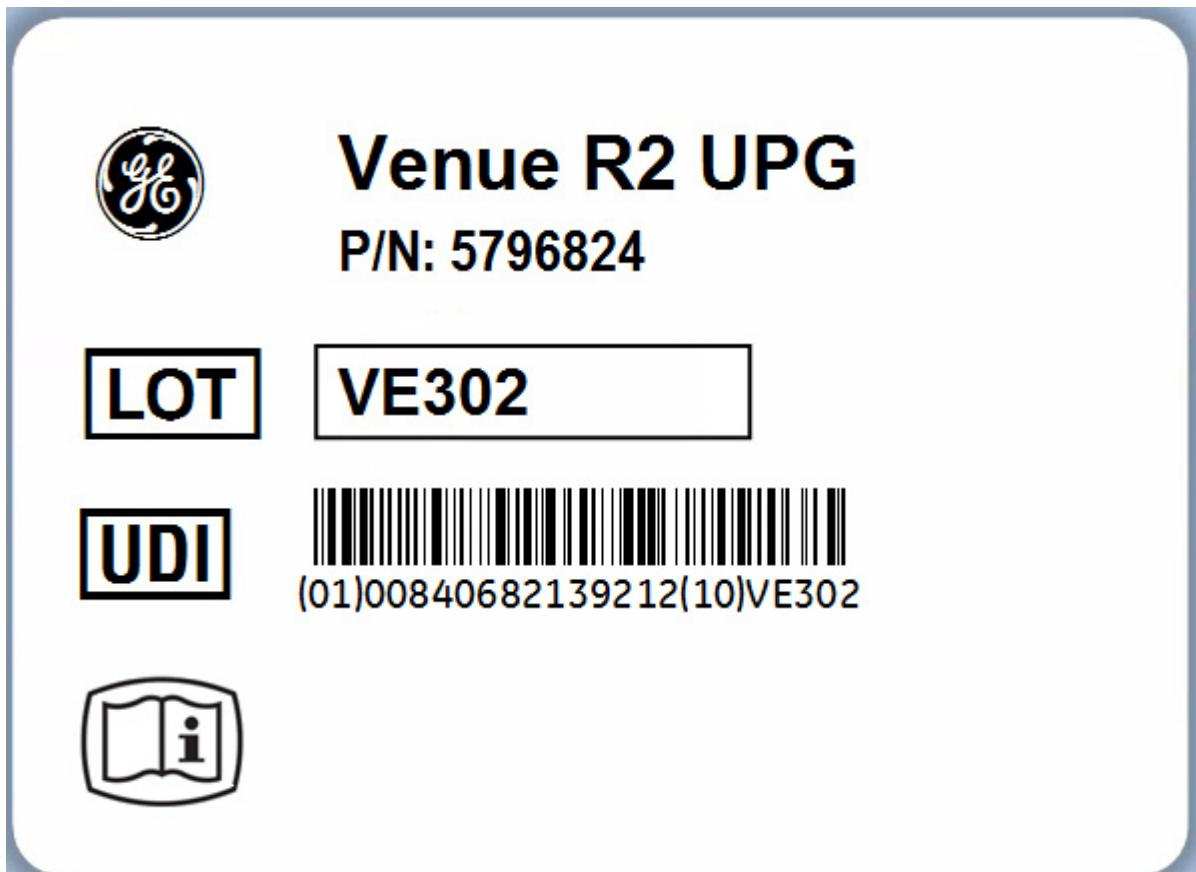

Figure 8-246 Venue™ Upgrade UDI Label
19.) Scan the UDI code with GE UDI Scanner application and make sure the CRM system is updated correctly. see Figure 8-246